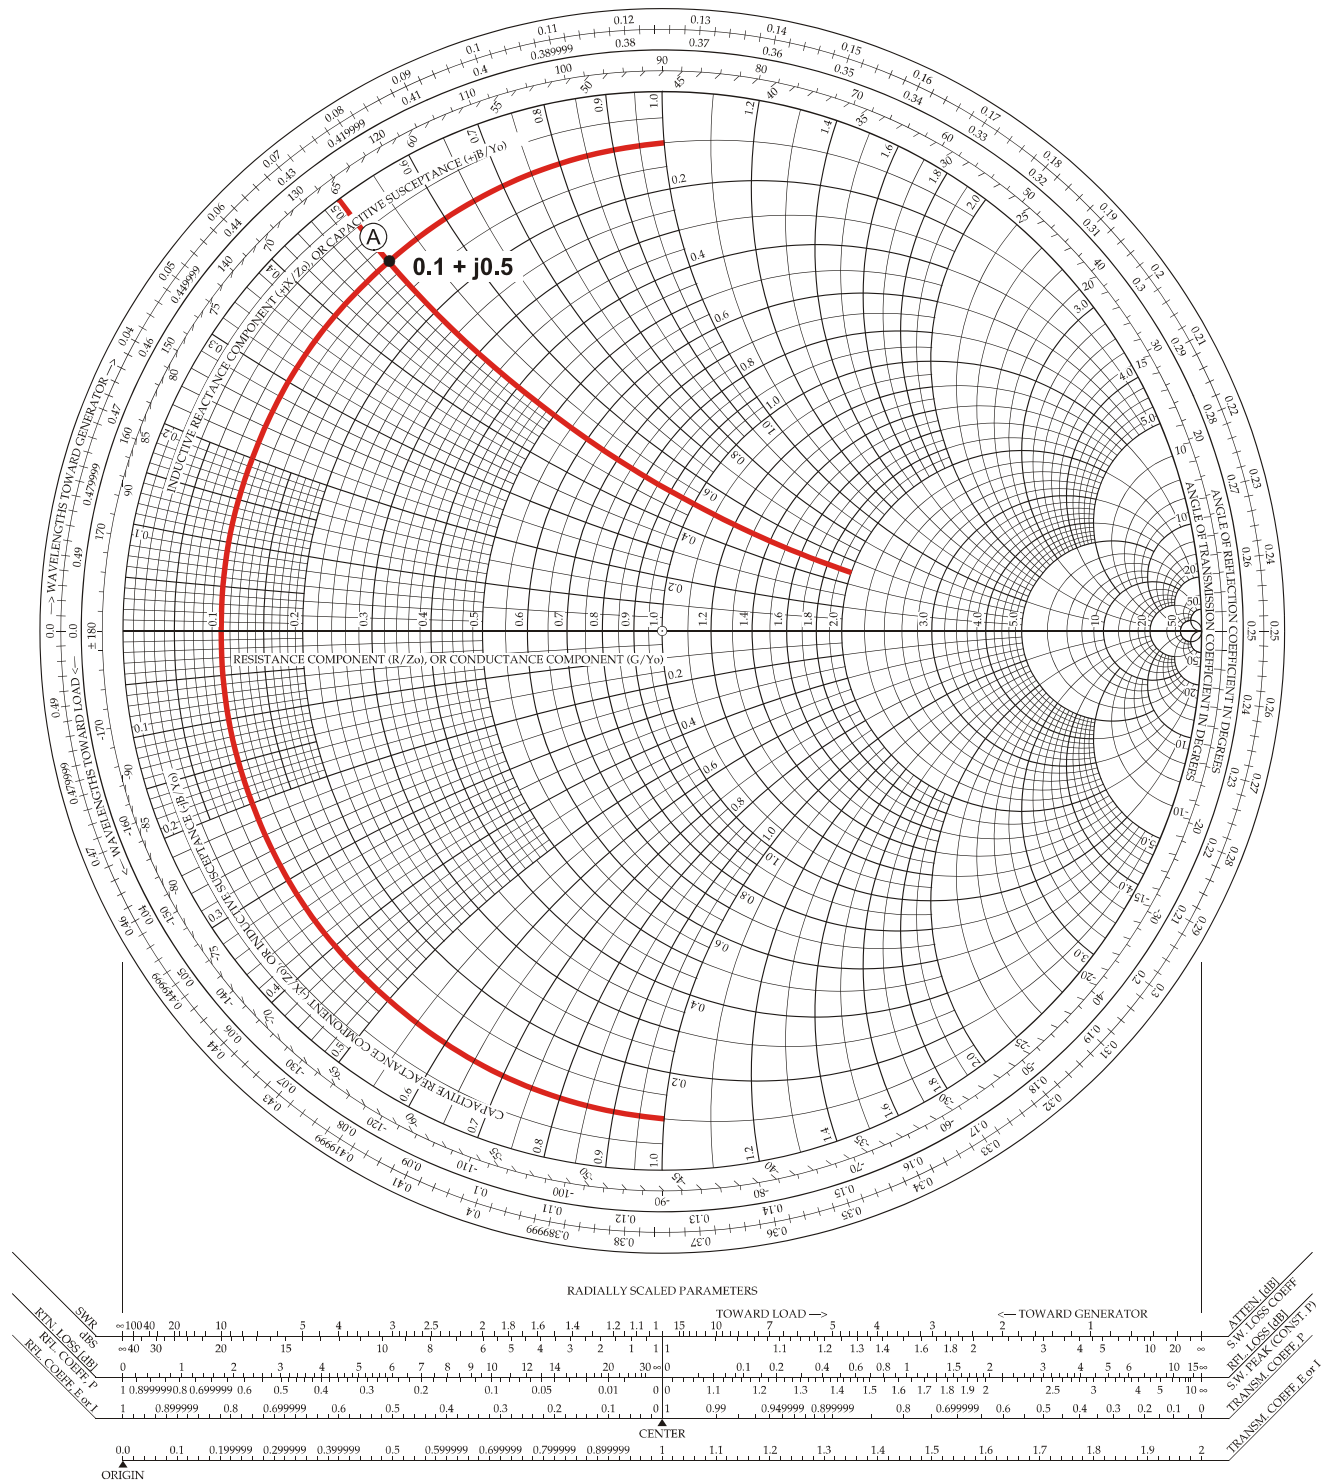

Figure 11-11. Plotting a normalized impedance.
Plot this impedance on the Smith Chart of Figure 11-11.
2. From the center point of the Smith Chart (the mark "1.0", that is,  $1 + j0$ ), move to the left along the horizontal line to find the 0.1 resistance circle, as Figure 11-11 shows.